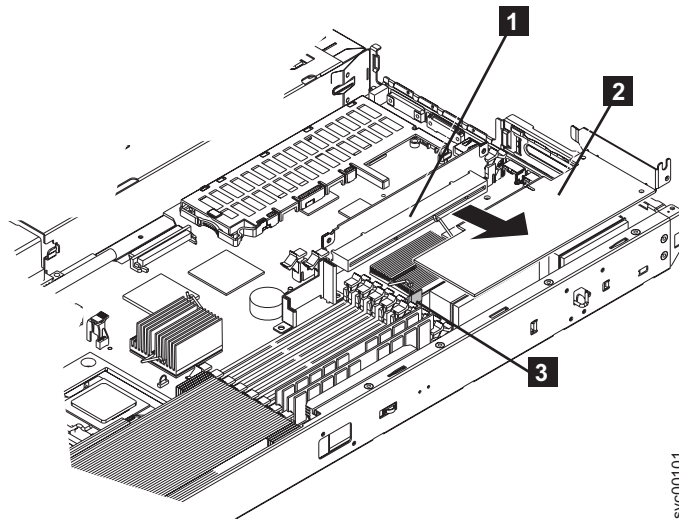

Figure 156. SAN Volume Controller 2145-8F2 riser card and low profile adapter
- b. Hold the blue adapter support away from the card and pull it away from the edge connector on the riser card assembly, as shown in Figure 156 on page 431.